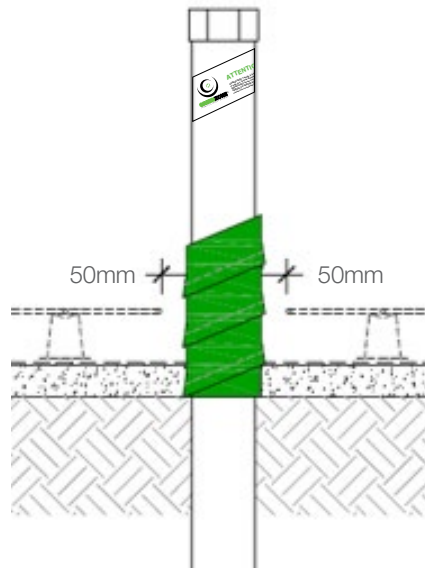

FIGURE 5.7 A
- c. then continue to wrap the pipe in a circular motion angled upwards at approximately 22 degrees (see figure 5.7 A) ensuring that the GREENZONE® EFTS has a minimum lap of 20mm and continue until the wrap exceeds the height of the finish floor by a minimum of 40mm at the lowest point,